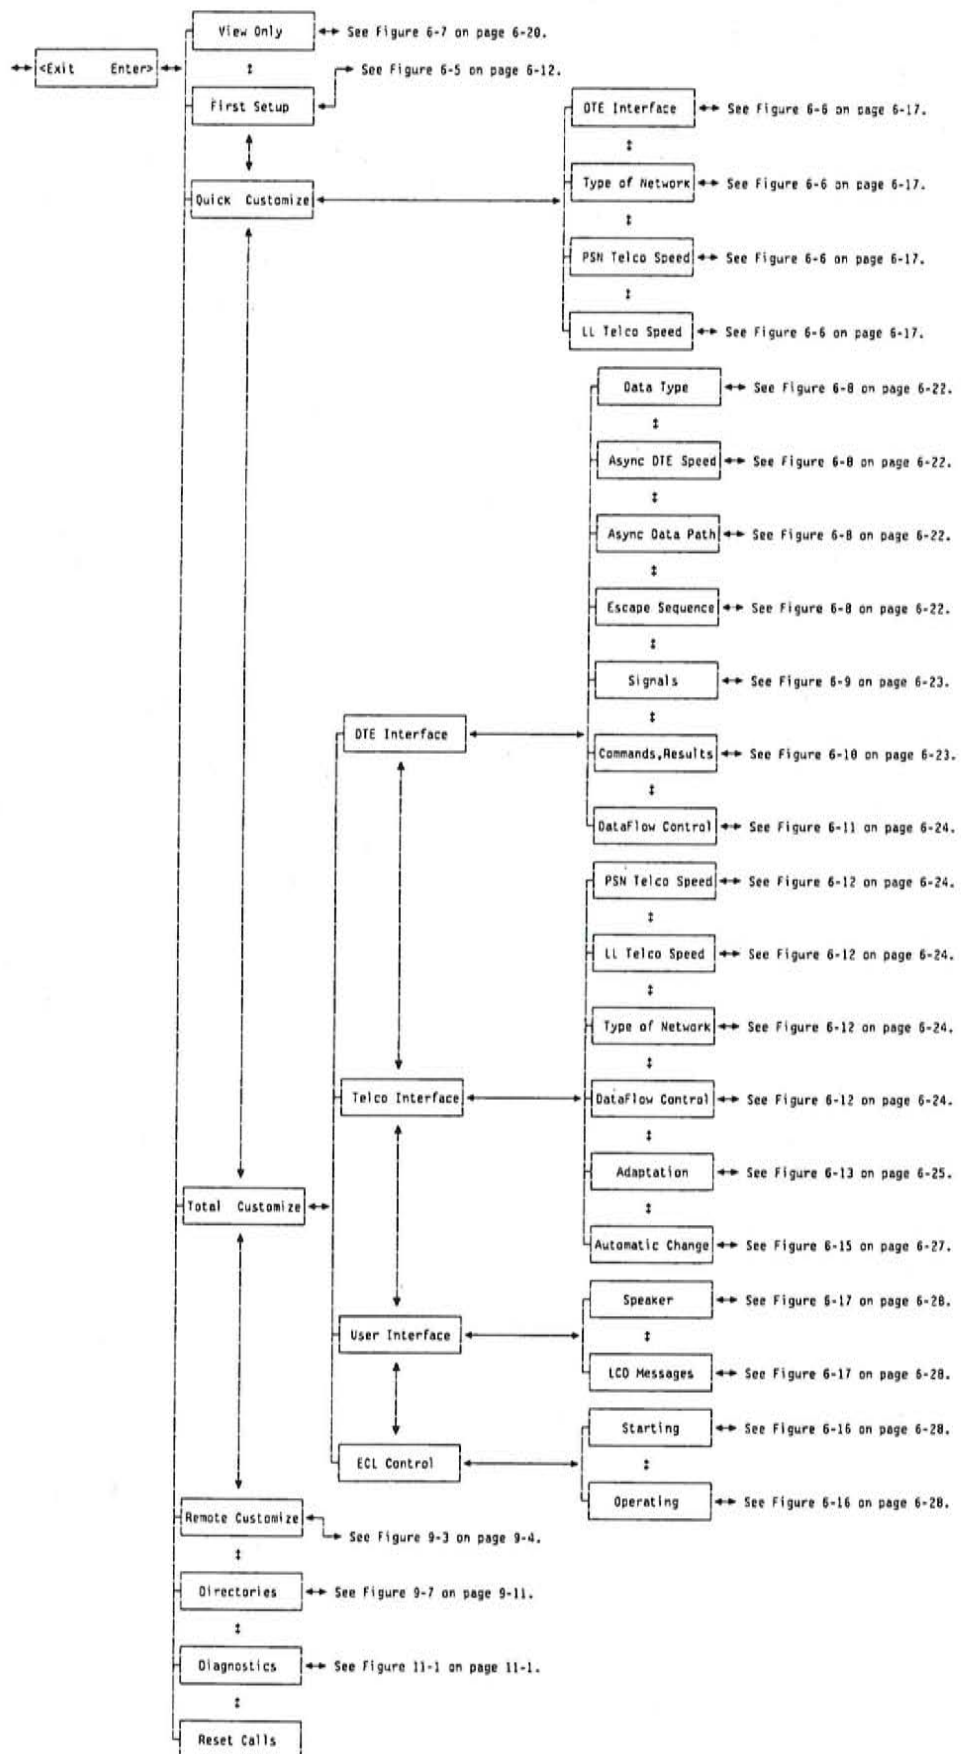
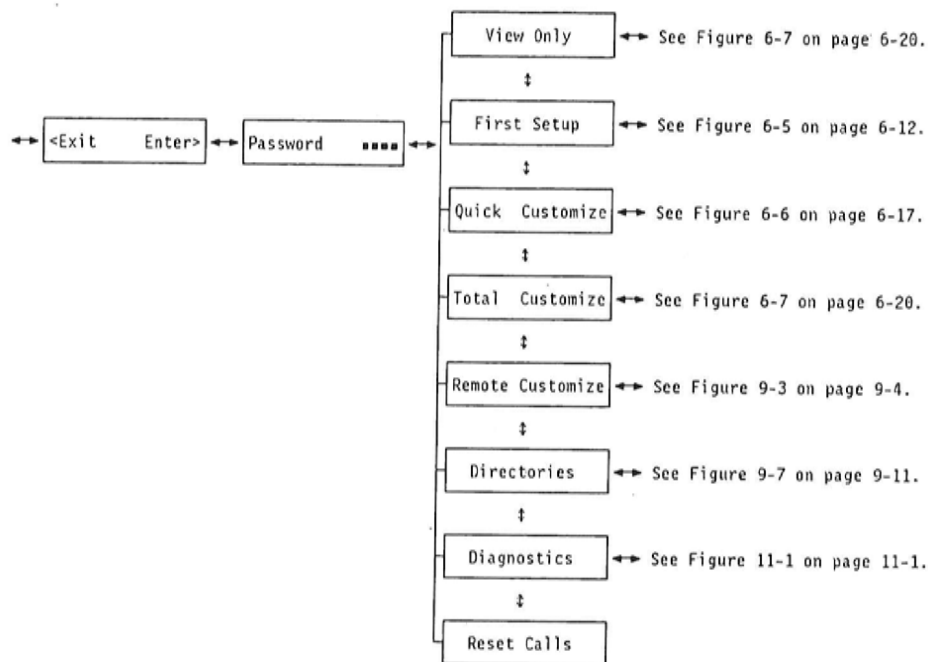

Figure 6-1. Part of the LCD Configuration Tree
Figure 6-3. The Configuration Tree Near the Entry Point. The Password ■■■■ message is skipped if the front panel is unlocked.
Imagine a tree laying on its side with the trunk and roots to your left and the branches and leaves to your right. Why? Well, one way of organizing a large amount of information is to arrange it in what is called a decision tree and we have organized the front panel configuration options into such a structure. Part of the 7855-10's tree structure is shown in Figure 6-1 on page 6-3. When you begin configuring the modem, the front panel display is positioned at the trunk of the tree structure. You use the right arrow button to move toward the leaves of the tree which are configuration choices and the left arrow button to move toward the root of the tree which is the exit from the tree structure.
This example will help you become more comfortable with the tree structure and the buttons. If you do not have a modem or if you prefer to become familiar with the figures in this book, start by using Figure 6-3 on page 6-9 as a reference. Press and release front panel buttons in the sequence shown below to move through the tree structure.
The View Only section of the configuration tree is useful for checking the configuration of the modem because it is not possible to change the configuration from that section of the tree. Figure 6-3 on page 6-9 shows how to get into the View Only section of the tree and "The Total Customize and View Only Menu" on page 6-19 describes the structure you see.
Press the ← and → buttons together. The display shows <Exit. Enter>. Pressing the ← button when this message is showing moves you toward the exit from the tree structure, while pressing the → button moves you into the configuration choices. Figure 6-3 on page 6-9 shows the tree structure near the "exit/enter" message in more detail than is shown in Figure 6-1 on page 6-3.
The First Setup and Quick Customize menus are discussed later in this chapter. Brief descriptions of the other menus shown in Figure 6-3 follow:
3. Modify working memory as needed using the Quick Customize or Total Customize menu from Figure 6-3 on page 6-9.